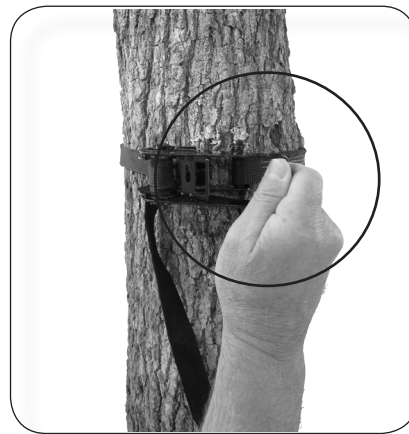

Figure 21
STEP 9: With the loop end of the ratchet strap engaged as previously outlined, and the bolt tightened, remove any slack from the ratchet strap by pulling on the tag end of the strap. With the slack removed, and the M-102S receiver level and the strap untwisted, ratchet the remaining slack out of the strap by engaging the ratcheting portion of the assembly as shown in Figure 21. Tighten the ratchet strap until the M-102S receiver is firmly attached to the tree trunk. Make certain you have at least two (2) wraps (turns) of webbing around the ratchet spool (barrel) to ensure good purchase (engagement) of the ratchet strap to the tree. If you do not, you are attempting to install the treestand on a tree whose diameter exceeds the treestand's capacity. **DO NOT** install this product on trees which exceed the receiver's *maximum* diameter capacity of 22" (56 cm). Likewise, attempting to install your treestand/receiver on a tree whose diameter does meet the *minimum* installation diameter of 9" (23 cm) will preclude you from achieving the minimum two (2) webbing wraps on the ratchet strap. **DO NOT** attempt to install on any tree outside of the minimum and maximum tree installation diameters of 9" (23 cm) to 22" (56 cm).